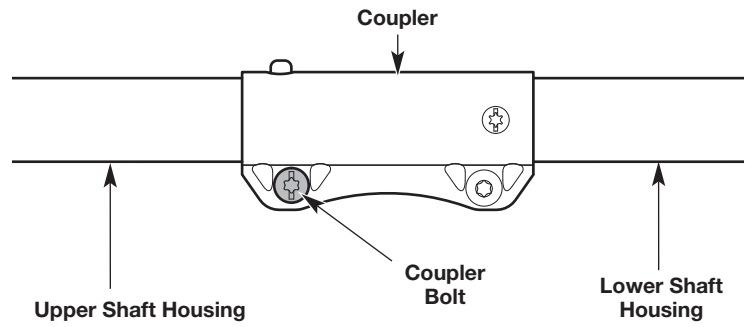

Fig. 4
3. Loosen the coupler bolt with a flat-head screwdriver (Fig. 4).
7. Tighten the coupler bolt securely with a flat-head screwdriver (Fig. 4).